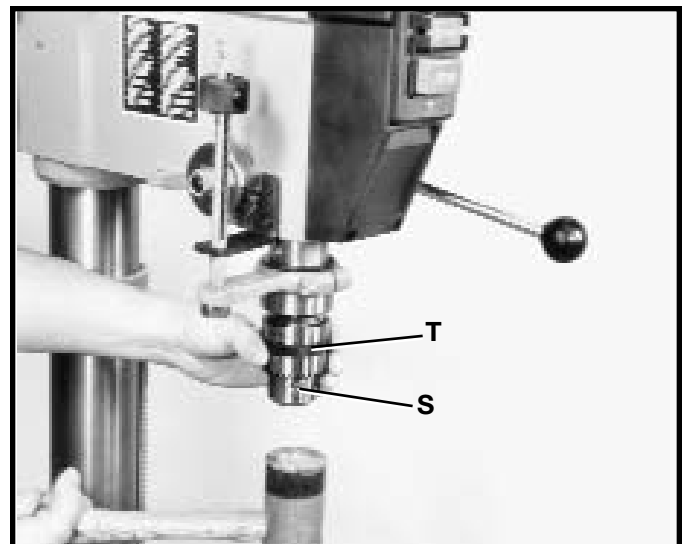

Fig. 9
8. Open chuck jaws as wide as possible by turning chuck sleeve (T) Fig. 9. Holding the chuck (S) Fig. 9, carefully drive the chuck (S) onto the spindle with a rubber mallet as shown, or with a block of wood and hammer. This will seat the chuck (S) properly on the spindle. **IMPORTANT:** To avoid damage to the chuck, do not drive the chuck directly onto the spindle with a metal hammer.